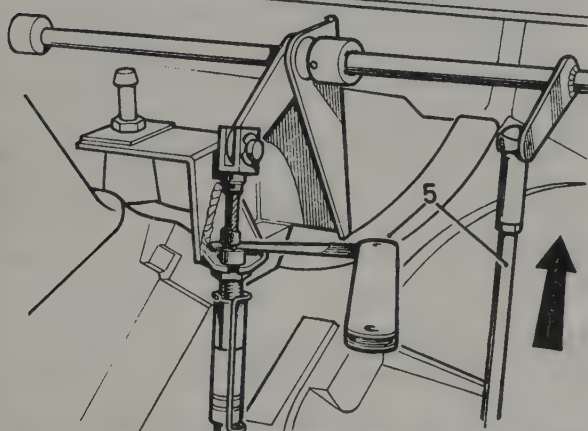

Fig. 6.41. Checking downshift cable stop clearance (type 303 gearbox) (5) accelerator coupling shaft
- 4 With the engine idling, operate the accelerator coupling shaft until the idling speed just starts to rise, then maintaining this setting, check the gap between the crimped stop on the inner cable and the end of the adjuster which should be between 0.010 and 0.020 in. (0.25 and 0.50 mm) (Fig. 6.41).